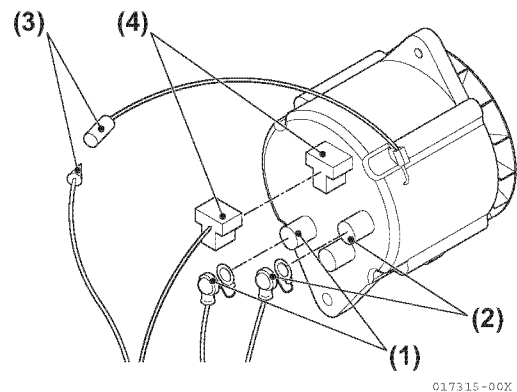

Figure 11-8
4. Disconnect the positive (+) cable (Figure 11-8, (1)) from alternator E terminal.
5. Disconnect the connector (Figure 11-8, (2)) from alternator BAT terminal.
6. Disconnect wire connector for IC regulator (Figure 11-8, (3)).
7. Disconnect the wire connector for the speed sensor, if used (Figure 11-8, (4)).